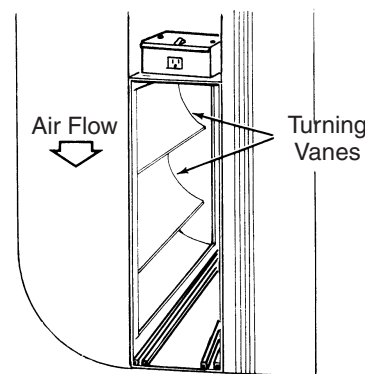

Figure 13
4. Using butt joint, attach duct work (normally an elbow) to the upstream side of air filter compartment. (Note the use of the sheet metal turning vanes inside the elbow to improve air distribution.) (Figure 13)